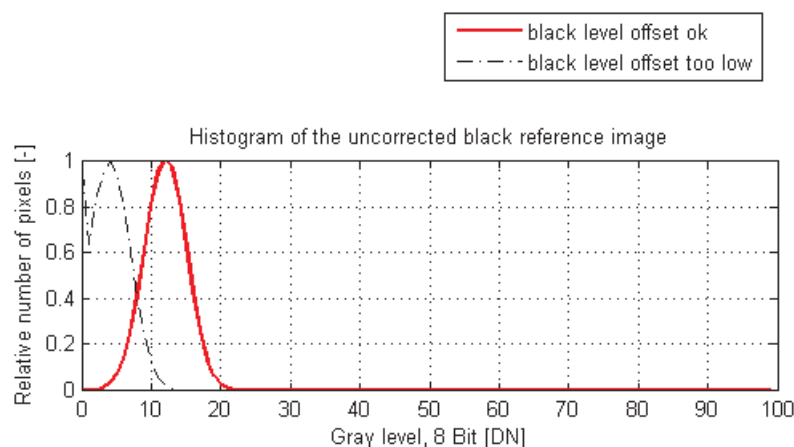

Figure 4.16: Histogram of a proper black reference image for offset correction
- It may be necessary to adjust the black level offset of the camera. In the histogram of the black reference image, ideally there are no gray levels at value 0 DN after adjustment of the black level offset. All pixels that are saturated black (0 DN) will not be properly corrected (see Fig. 4.16). The peak in the histogram should be well below the hot pixel threshold of 63 DN @ 8 bit.